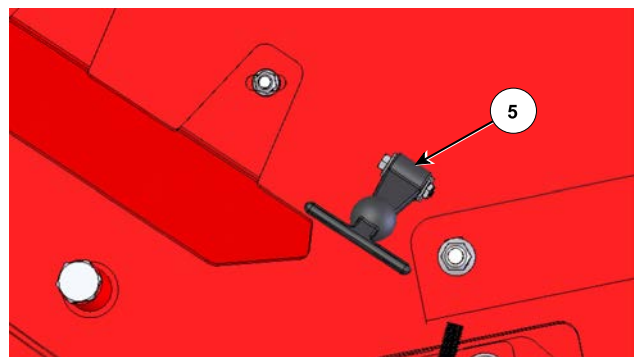

Figure 33: Install the Rubber Latch for the Main Rear Door
28. Install the rubber latch (5) for the main rear guard door, see *Figure 33*.